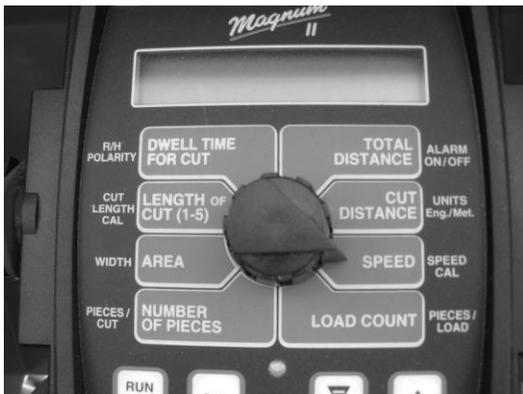

Figure 5—Rotary switch in SPEED CAL position.
10. Next, turn the rotary switch to SPEED CAL (Figure 5). The current calibration factor will be displayed.